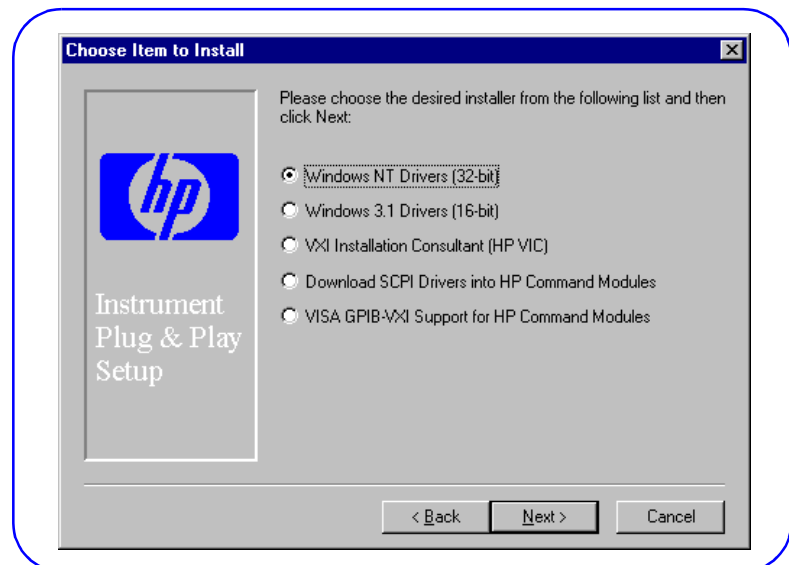

Figure 22. Choose Item to Install Screen
- 4 Select *INSTALL DRIVERS* and choose whether or not to view the README.TXT file. Click *No* to display the **Choose Item to Install** screen (see Figure 22).